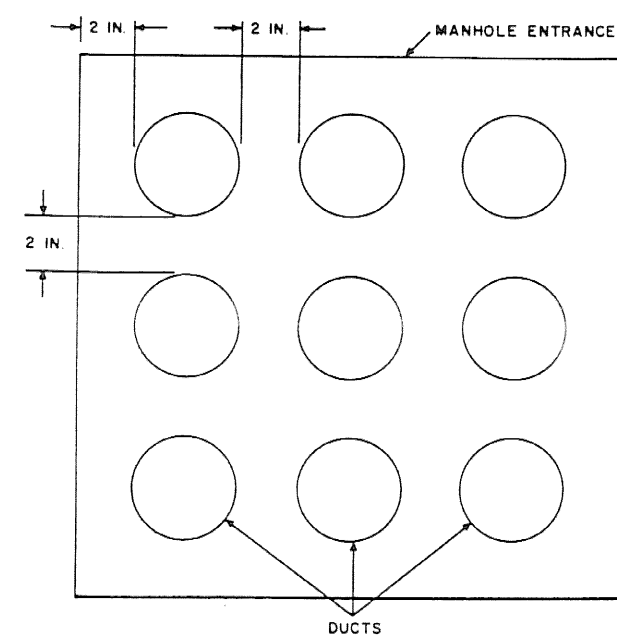

Fig. 5—Separation of Ducts of Manhole and Cable Vault Entrances
5.04 At the manhole or cable entrance facility, separate the ducts vertically and horizontally by a minimum of 2 inches (Fig. 5). Separation between ducts can be obtained with preformed, plastic spacers. Do not use wood for spacers. Join the conduit to duct terminators in the wall using the cement (or adhesive) supplied with the conduit. If the conduit is to be cast into the manhole (CEF) wall, attach the duct terminators to the termination end of the conduit prior to encasement in the wall. Place wooden bulkheads in front of the ducts inside the manhole to prevent the flow of concrete into the manhole, and pour concrete (2500 psi, 3/8-inch aggregate, 9-inch slump) around the ducts outside the manhole. To prevent the concrete from flowing along the trench, ei-